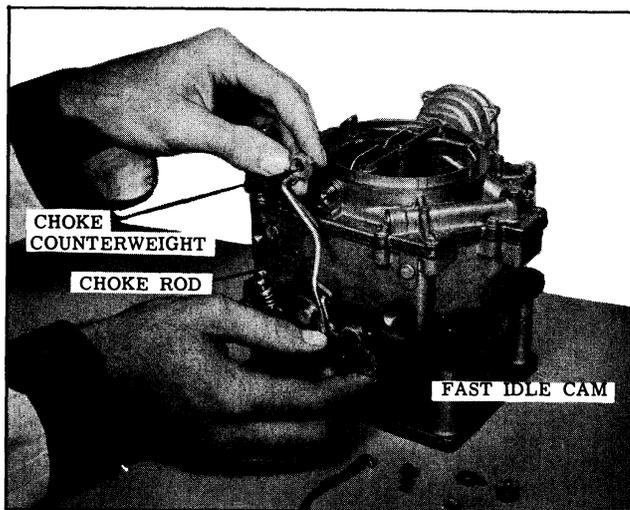

Fig. 8-88 Removing Fast Idle Cam
7. Remove the fast idle cam attaching screw. Remove the fast idle cam, choke rod and choke counterweight as an assembly. (See Fig. 8-88)